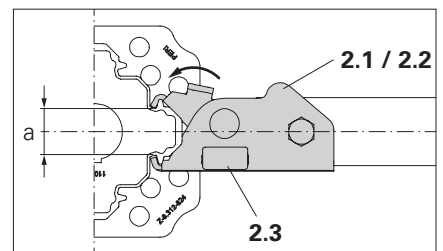

Fig. A2.05
- Engage the wedge connection in the profile grooves of the MULTIPROP MP (1). (Fig. A2.05)
- The Frame MP MRK (2) is attached to the MULTIPROP MP (1). (Fig. A2.05)
- For a tight connection to the Outer or Inner Tube with jaw opening variant "a", two wedge courses are integrated in the wedge (2.3) itself (Fig. A2.05 jaw opening "a")